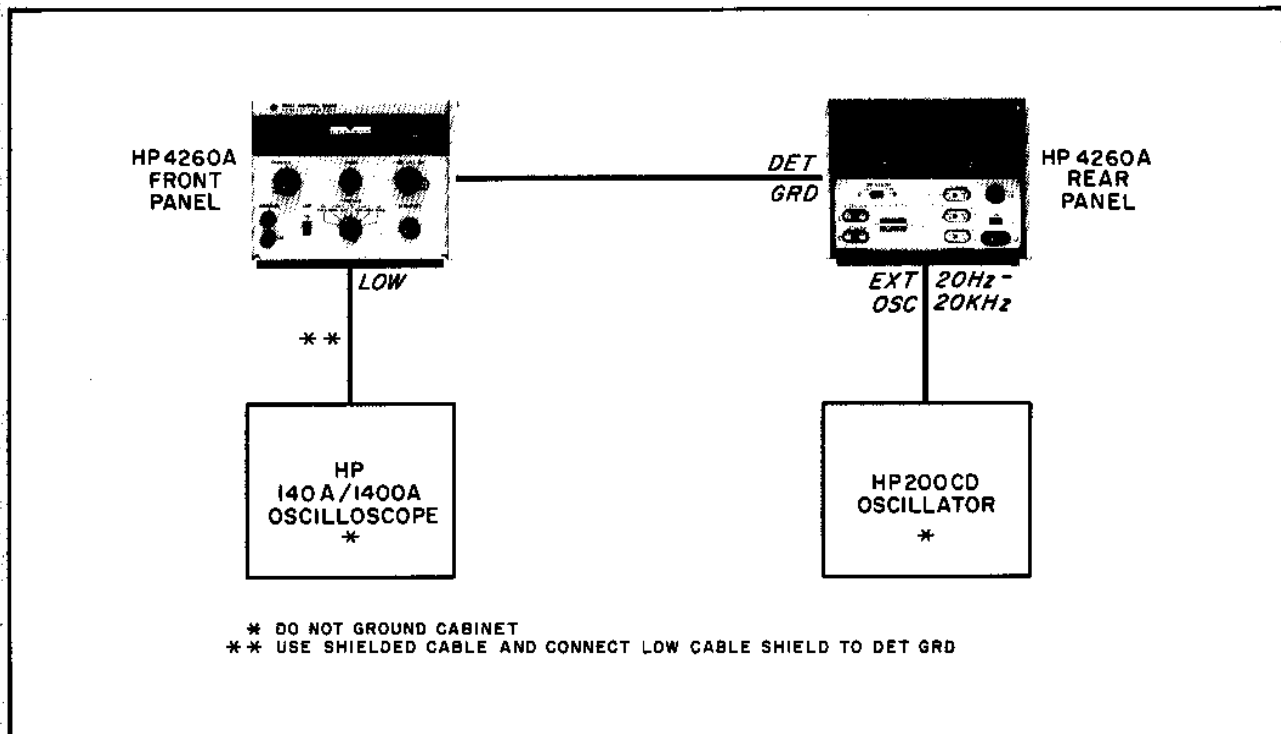

Figure 5-5. Test Setup for Adjustments
5-30. INTRODUCTION. The procedures in Paragraphs 5-31 through 5-38 outline checks and adjustments for the components in the bridge circuit. These include fixed 0.2 μF capacitor C1, compensating capacitor C305, CRL resistor R3, trimmers C103, C104, C3, and accuracy of resistors in the RANGE switch. The test equipment setup is shown in Figure 5-5. These checks and adjustments should be performed in the order listed when a comprehensive overall instrument checkout is desired. Test equipment for these checks is listed in Table 5-6.
5-31. C1 CHECK. To check fixed bridge capacitor C1, connect the instruments as shown in Figure 5-5.
a. Connect the test setup as shown in Figure 5-5.
a. Connect test equipment setup as shown in Figure 5-5.
- a. Connect test equipment as shown in Figure 5-5.
- a. Connect test equipment setup as shown in Figure 5-5.
a. Connect test setup as shown in Figure 5-5.